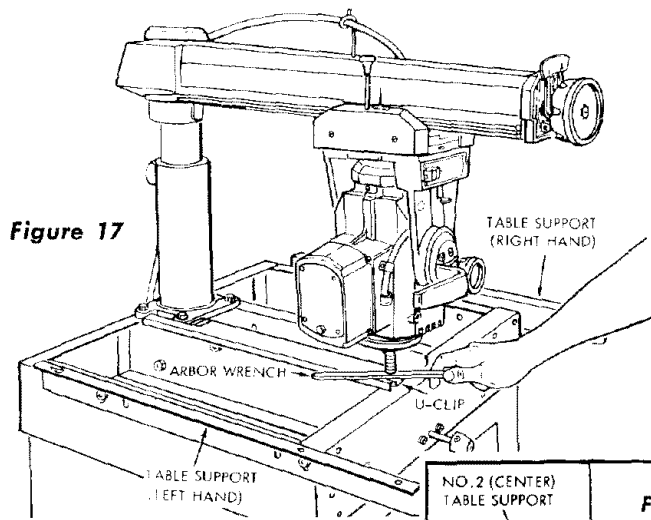

Figure 17
- d. The forward end of the No. 2 (center) table support is anchored to the saw base with a slot and, consequently is not adjustable. For this reason, this location is the starting point for adjusting all of the table supports. (See figure 17.)
- e. Move the carriage and swing the radial arm until the end of motor shaft is positioned directly over the U-clip, located on the outer end of table support No. 2. Place the arbor wrench near the U-clip, then, with the elevation crank, lower the carriage until the end of the shaft just touches the arbor wrench. (See figure 17.)
- f. Carefully adjust the motor up or down with the elevation crank until the arbor wrench (being used as a "Feeler") slides back and forth with only slight resistance. (See figure 17.)
- h. Recheck the front position (figure 17), since a change at the rear could slightly affect the front setting. Check back and forth until both front and rear positions are exactly the same height. Tighten the attaching screw and nut (figure 19).